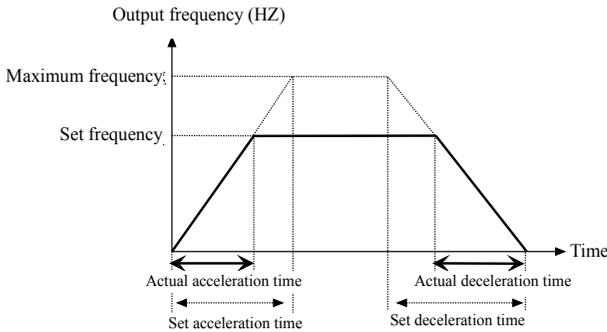

Figure. 5-1-5 Linear acceleration/deceleration
- ◆ Linear Acc/Dec mode used for ordinary load: The output frequency increases or decreases according to a constant rate. As shown in Figure. 5-1-5.